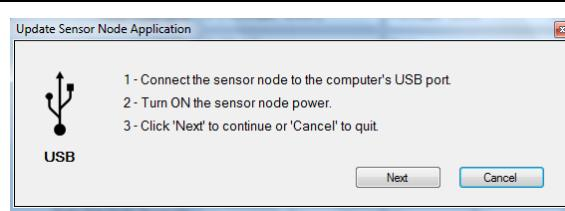

Figure 10      Update Sensor Node Application Dialog
- 2 In the Tools menu, select the “*Update Sensor Node Application...*” menu item. The *Update Sensor Node Application* dialog should appear as seen in Figure 10.